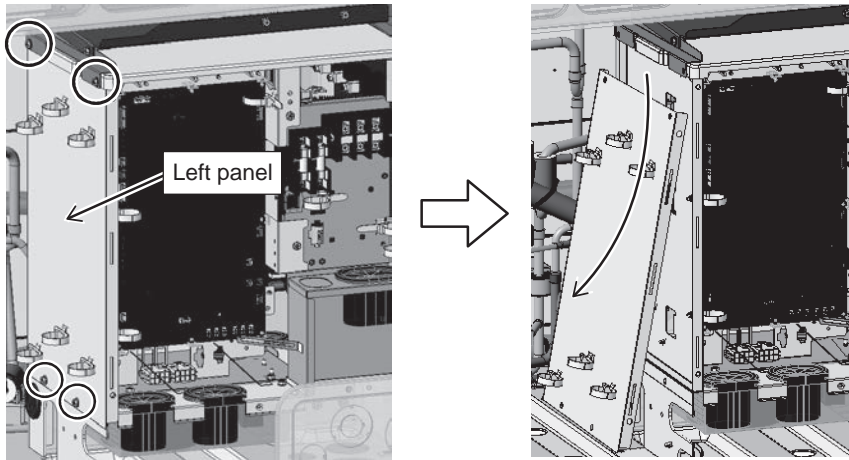

Figure 3
- (4) Remove the left control box panel (\*applicable to the XL and EXL modules only). (4 screws as shown in Figure 3.)